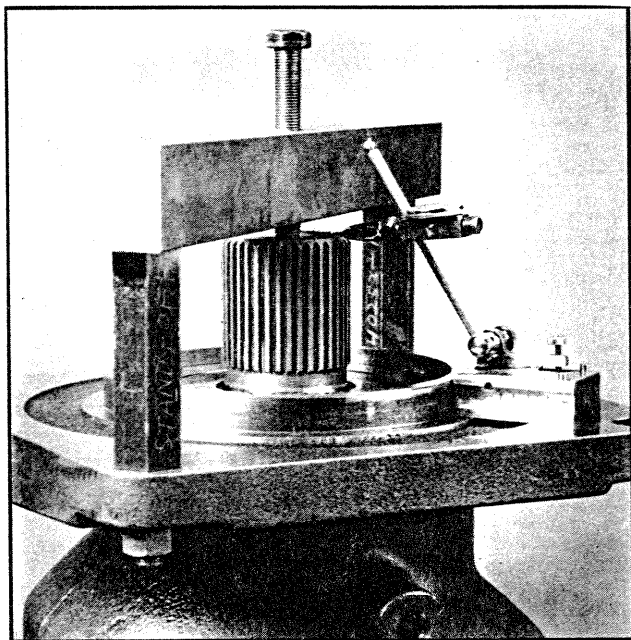

Figure 18. Shaft End Play Tool on MFD Motor
a. Install approximately 1.016 mm (.040) shims (3). Assemble retainer (2). Thread screws (1) through retainer (2) and shims (3) into housing (39). Torque screws (1) to value noted in Table 7.
b. Assemble shaft end play tool and dial indicator on motor per Figure 18. To measure shaft end play, perform the following steps.